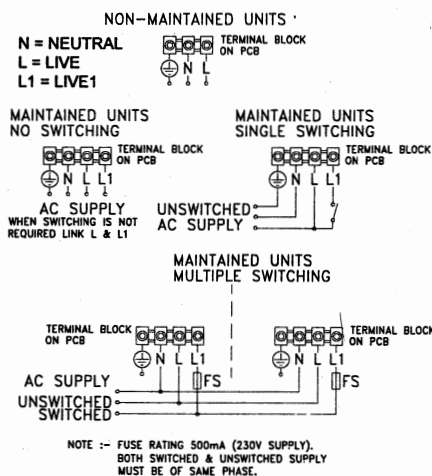

Figure 2
**MAINTAINED UNIT ONLY** - Continuous illumination, provided by the maintained circuit, can be switched on and off. Wire in supply as shown in the wiring diagrams, figure 2.